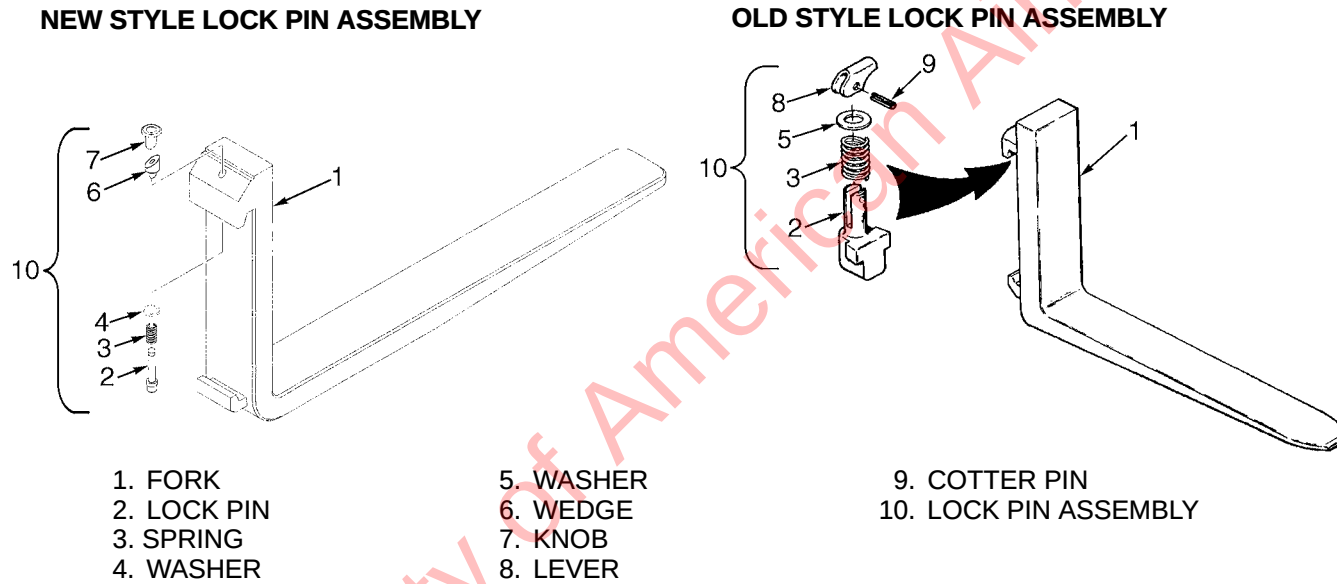

FIGURE 18. HOOK FORK LOCK PIN ASSEMBLY
**Hook forks** are connected to the carriage by hooks and lock pins. The lock pins can be one of two types. See FIGURE 18. These lock pins are installed through the top fork hooks and fit into slots in the top carriage bar. Adjust the forks as far apart as possible for maximum support of the load. Hook forks will slide along the carriage bars to adjust for the load to be carried. Raise the lock pin in each fork to slide the fork on the carriage bar. Make sure the lock pin is engaged in the carriage bar to lock the fork in position after the width adjustment is made.